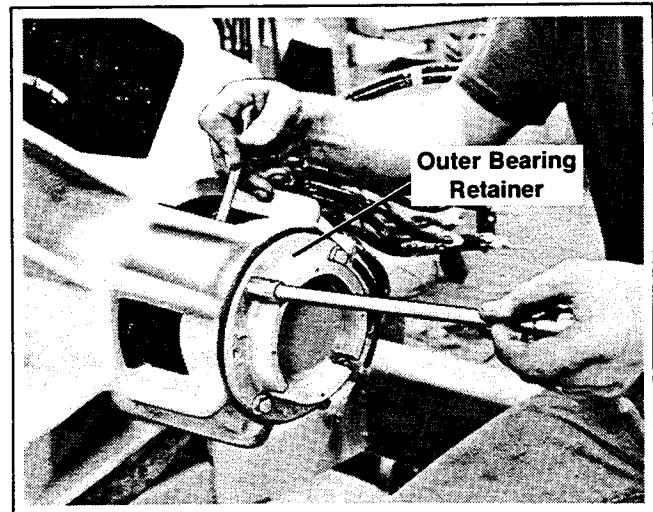

Figure 5-1. Loosening Bearing Retainers
6. Loosen generator end bearing retainers, if so equipped. See Figure 5-1.